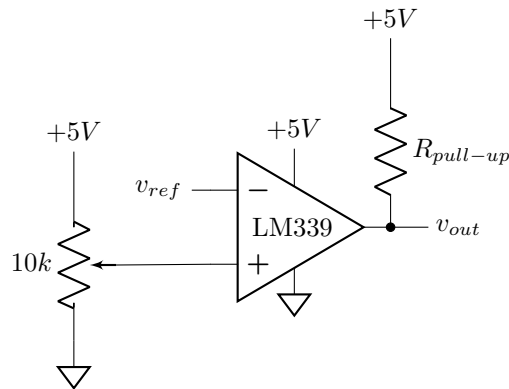

Figure 9: General integrated comparator setup
1. Construct the circuit seen in Figure 9 using a triangle wave with a .5Hz, 2.5Vpp signal with a +2.5V DC offset, and a pull-up resistor value of $1K\Omega$. Set the 10K potentiometer to have a 2.5V output on the wiper.